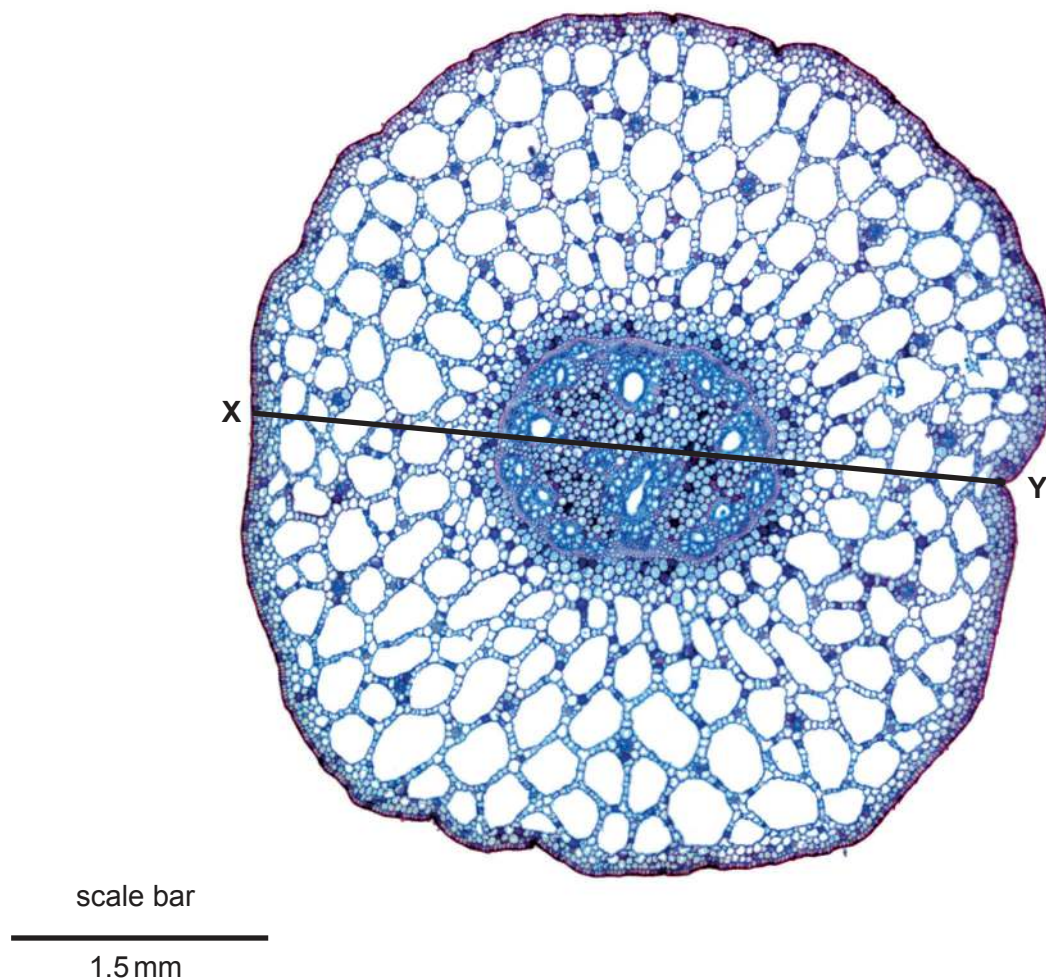

Fig. 2.2
- (b) Fig. 2.2 is a photomicrograph of a stained transverse section through a stem of a different type of plant that grows in water.
- (i) Use the scale bar on Fig. 2.2 to calculate the actual diameter of the stem indicated by line X–Y.
- (ii) Identify **three** observable differences between the stem on **J1** and the stem shown in Fig. 2.2.
- (iii) Suggest **one** observable feature shown by the stem in Fig. 2.2 that allows the plant to live in water. Give a reason for your answer.